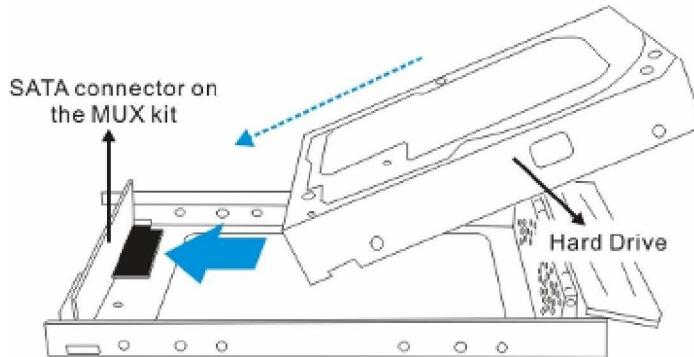

Figure 2-2: Installing a SATA Hard Drive
Step 2. *Insert the hard drive* by holding the drive at an angle and inserting it into the drive tray. (See *Figure 2-2*.)